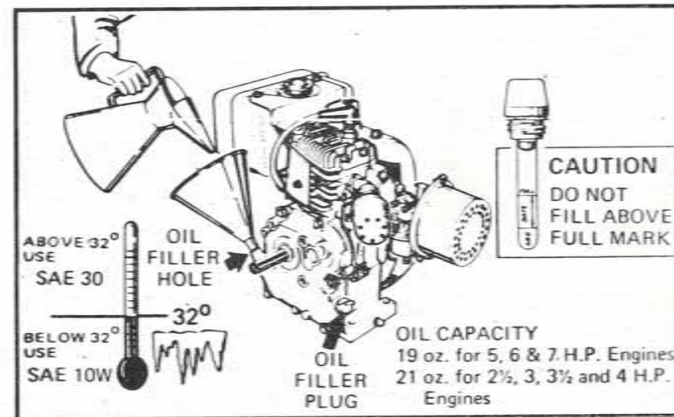

Figure 12
2. Fill crankcase with fresh clean oil. Be sure unit is setting level and fill slowly to avoid trapping air. Engine is equipped with dip stick, fill to full mark only. (See Figure 12)